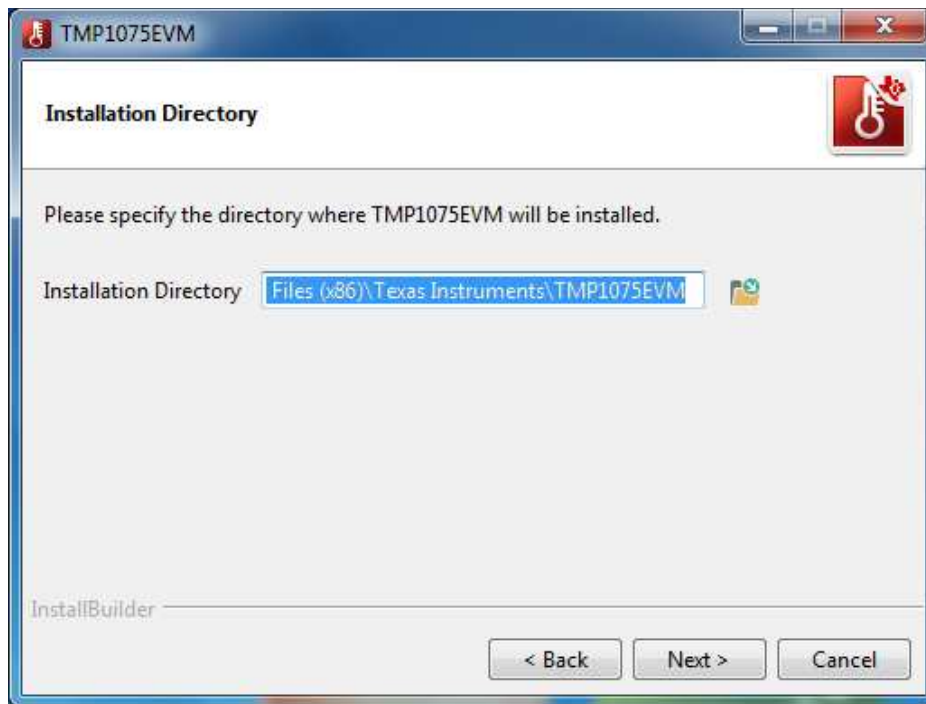

Figure 5. TMP1075EVM License Agreement
3. Follow the on-screen instructions by clicking the *Next* button to install the software. The following this option, two license agreements are presented as shown in Figure 5 and Figure 6 that must be accepted. After accepting both the Texas Instruments and National Instruments license agreements, the user is given the choice of selecting the directory to install the program; usually, TI recommends choosing the default setting stored in the *C:\Program Files (x86)\Texas Instruments\TMP1075EVM* path as shown in Figure 7.